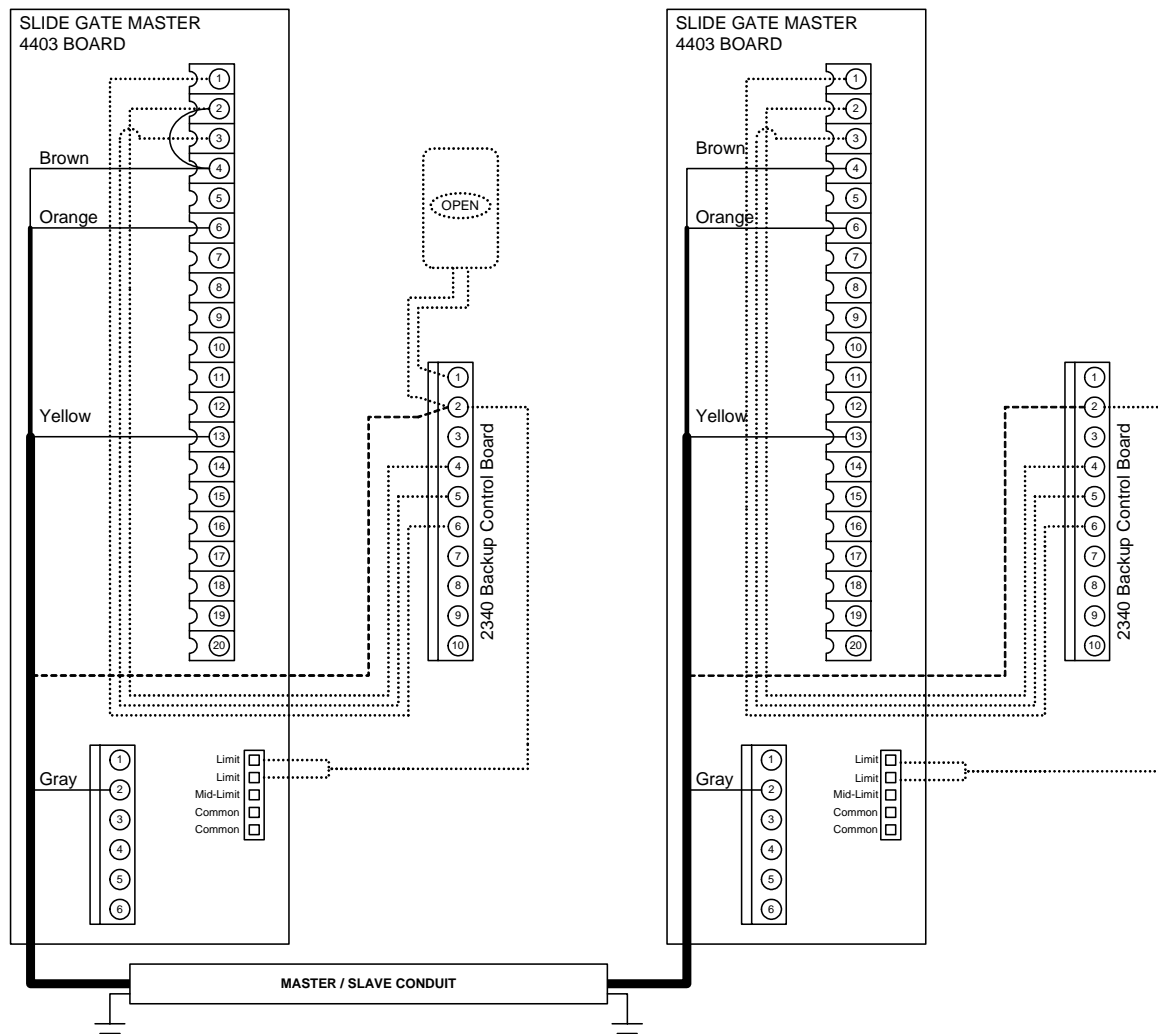

Figure 8
- Barrier gate systems use two master operators rather than a master-slave combination to create bi-parting barrier gates. Wire barrier gate master / master operators as shown in Figure 8. Color code shown assumes the use of DoorKing master / slave cable. Order part number 2600-755 (30 ft.), 2600-756 (40 ft.), 2600-757 (50 ft.).